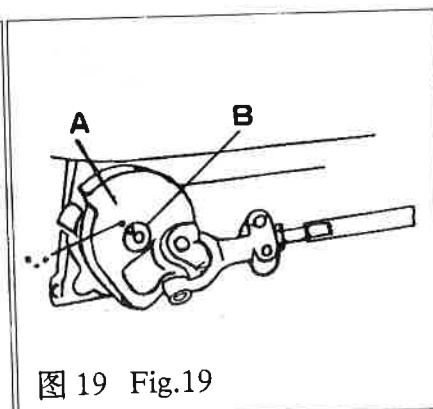

图 19 Fig.19
(1)钩线叉的基本位置 钩线叉的基本位置由钩线叉曲柄“A”与主轴“B”的位置决定。安装时应将曲柄上的圆点“·”标记对准主轴上的“V”形槽中心时,将钩叉曲柄固定(图19)。
Basic position of thread hook is decided by positions of crank "A" of thread hook and main shaft "B". When the mark "." on the crank coincides with the center of "V" groove on the main shaft, fix the crank of thread hook in place (Fig.19)
③调整钩线叉曲柄上的圆点“·”标记与主轴“V”形槽的相对位置(图 19)对钩线叉的左右位置也有影响。所以调整钩线叉的左右位置,必须根据具体情况,在上述三步骤中仔细选择和反复进行调整,才能达到最佳状态。
(2) Positioning of location for pronged thread hook
③Adjustment of location of the mark "." on the crank of thread hook in relation to "V" groove on the main shaft(Fig.19) impairs the positioning of the location of the thread hook. Thus microadjustment of the position for thread hook shall be made accordingly. An ideal condition of operation can be acquired only when careful selection and
① 运动关系调整 通过调整钩线叉曲柄上圆点“·”标记相当于主轴“V”形槽位置(图19)。
① Adjustment of timing relation by regulating the position of the mark “·” on the crank of thread hook and “V” groove on the main shaft (Fig.19)